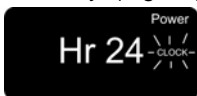

Fig. 15
1. Press the "Clock" button once, Hr24 will appear in the display window, press clock button a second time, Hr12 will appear. "Clock" will flash continuously. (Fig. 15)